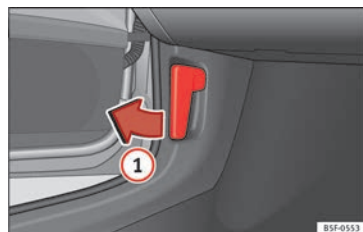

Fig. 8 Release lever in the driver's footwell area.
- Opening the bonnet: Pull the lever under the dashboard »» Fig. 8 ①.